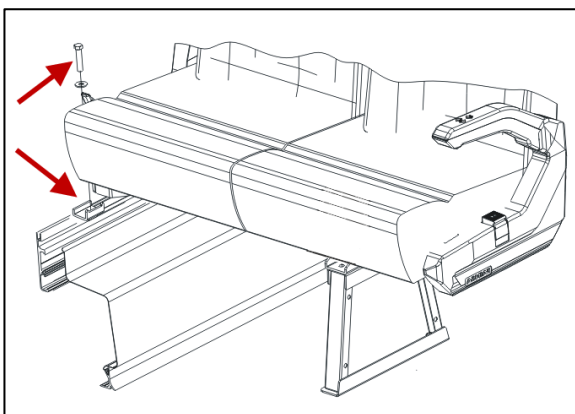

FIGURE 7
10. Loosen the screws (2) on the side wall rail (Figure 7). It is not necessary to fully remove the screws, but only loosen it to unlock the brackets on the rail.